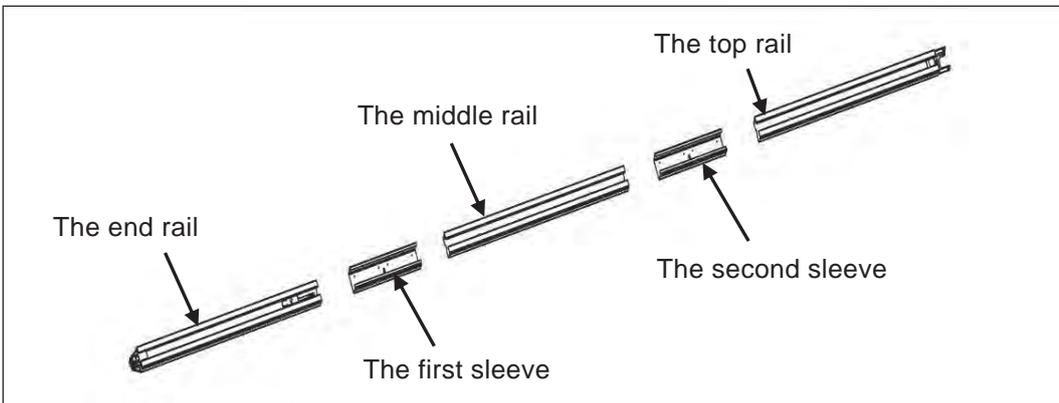

Fig. 8
2. As Fig.8, slide the 2nd sleeve to the other end of middle rail, slide the top rail into the 2nd sleeve;